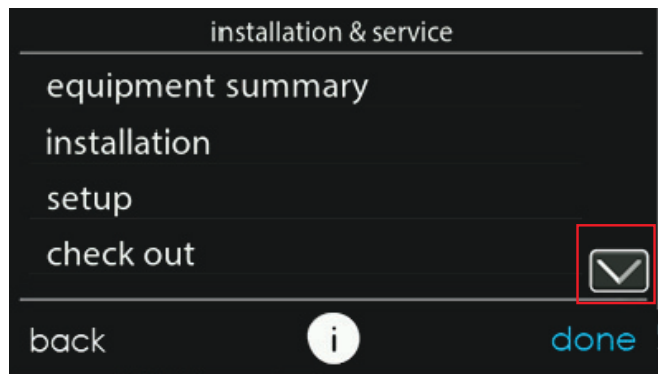
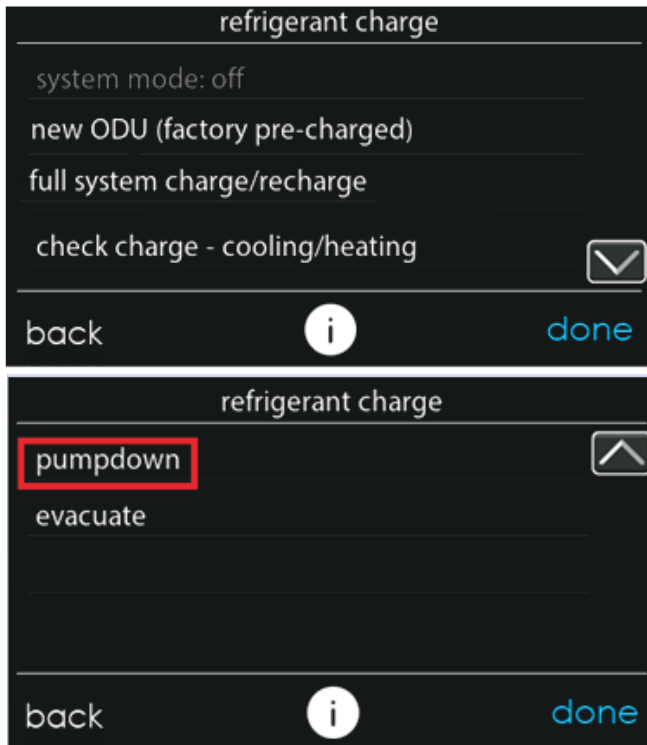

Fig. 14 – Installation and Service Menu
Fig. 23 – Pumpdown and Evacuation Selection
5. Navigate to the "Installation and Service menu" by performing a long press on the service icon from the main screen (see Fig. 13). Once in the "Installation and Service" menu, select "Refrigerant Charging" (see Fig. 14).
2. In the "installation and service" menu of the Infinity® System Control (see Fig. 13), go to "refrigerant charging" and then "pumpdown" (see Fig. 14 and Fig. 23).